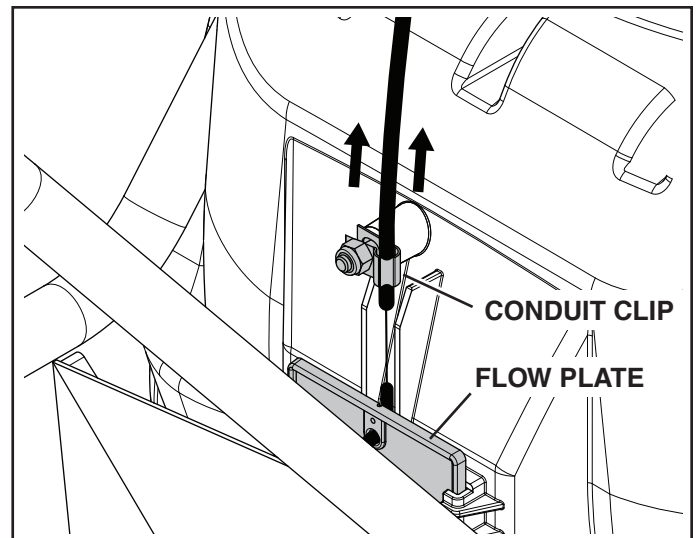

FIGURE 14
3. Loosen the nut that fastens the conduit clip to the bottom of the spreader. See figure 14.
4. Spread the ends of the clip until the cable can slide back and forth. See figure 14.
5. Hold the conduit clip in alignment and pull on the cable until the flow plate moves just slightly, then tighten the nut while holding the cable and cable clip in place. See figure 14.